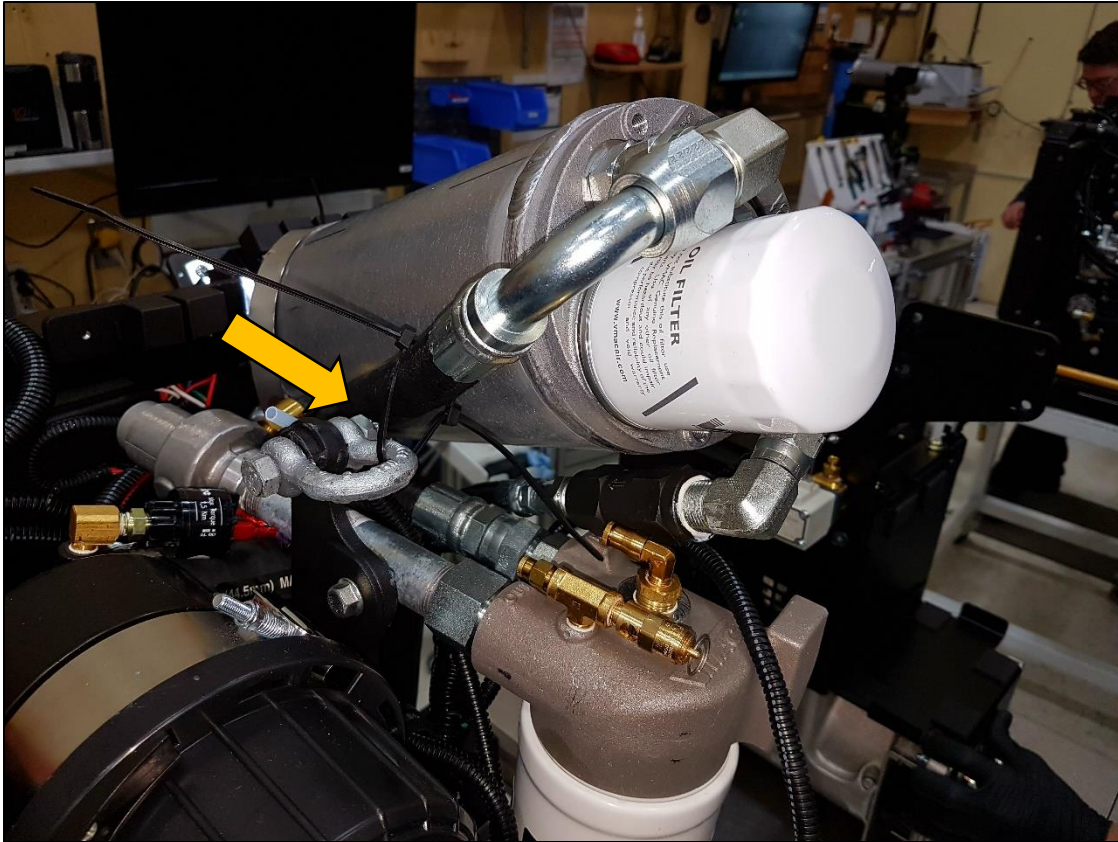

Figure 2
16. Using a zip tie wrapped around 3/4 in hose, lift AOST and tie to lifting hook clevis. See Figure 2.